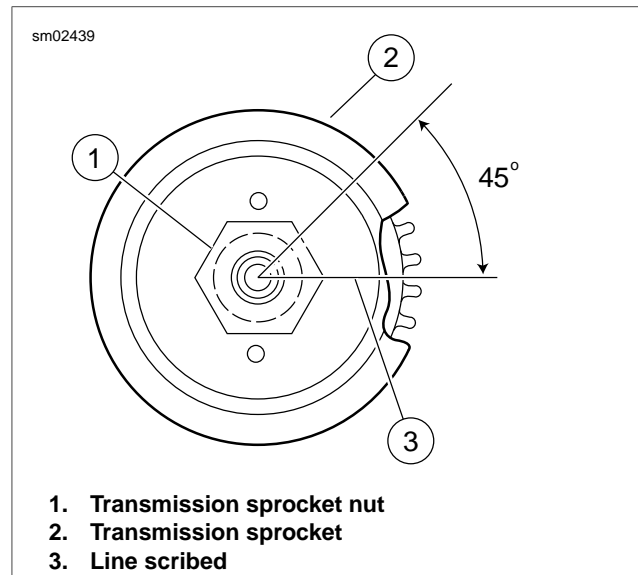

Figure 6-42. Transmission Sprocket Nut Final Tightening
8. See Figure 6-42. Scribe a line (3) on the transmission sprocket nut (1). Continue the line on the transmission sprocket (2) as shown.